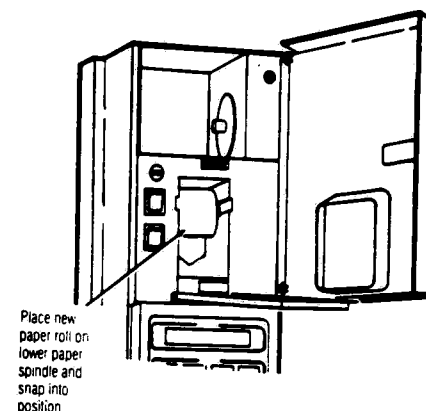

FIGURE 4-5 - New Paper Roll in Place
7. Place lower spindle (with new paper roll) back into position by pressing from the front until it snaps into place (Figure 4-5).